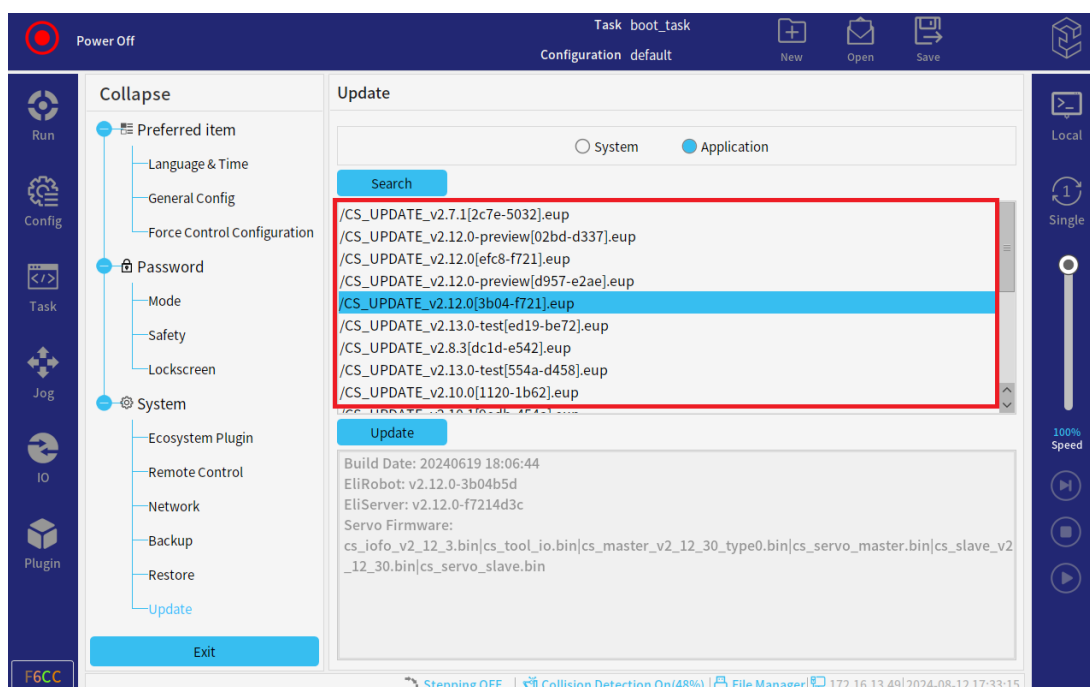
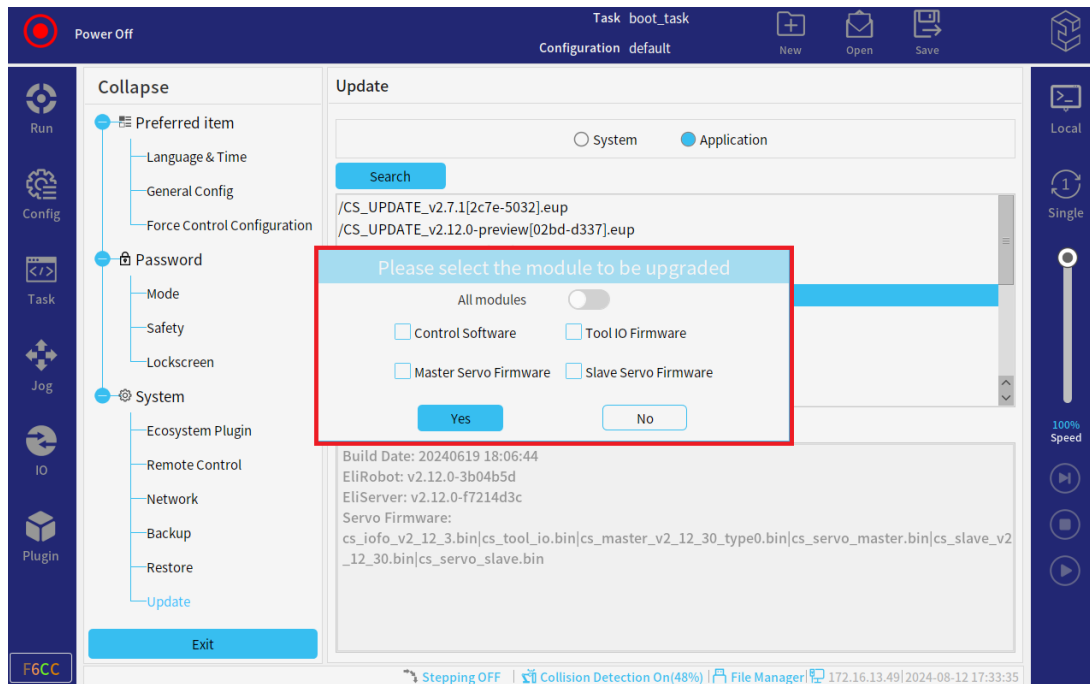
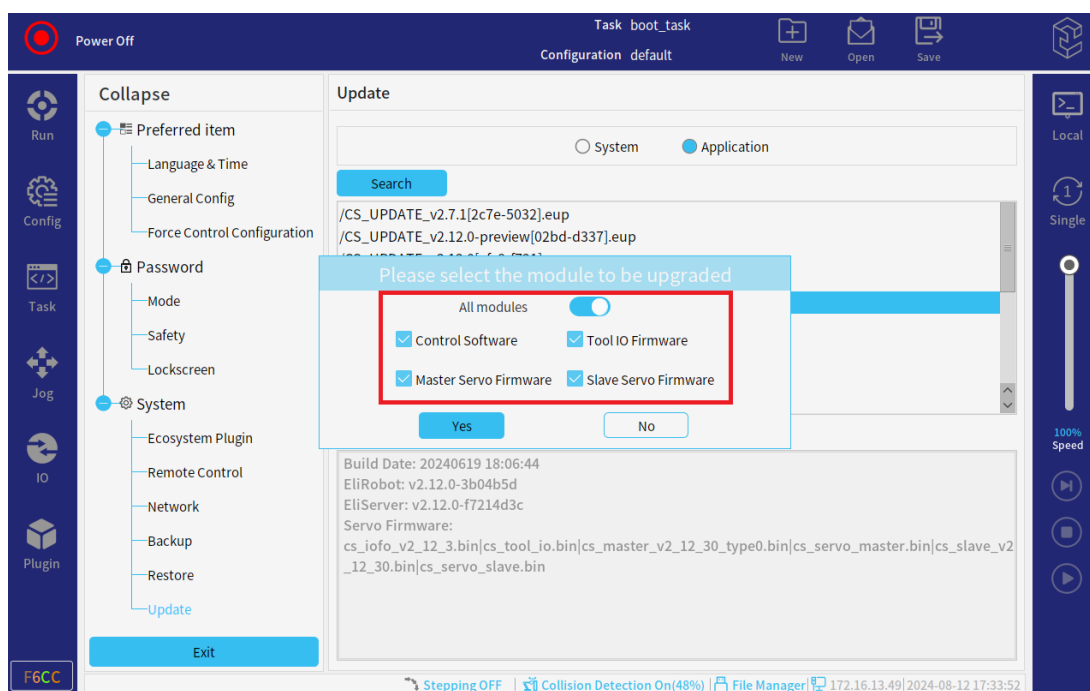
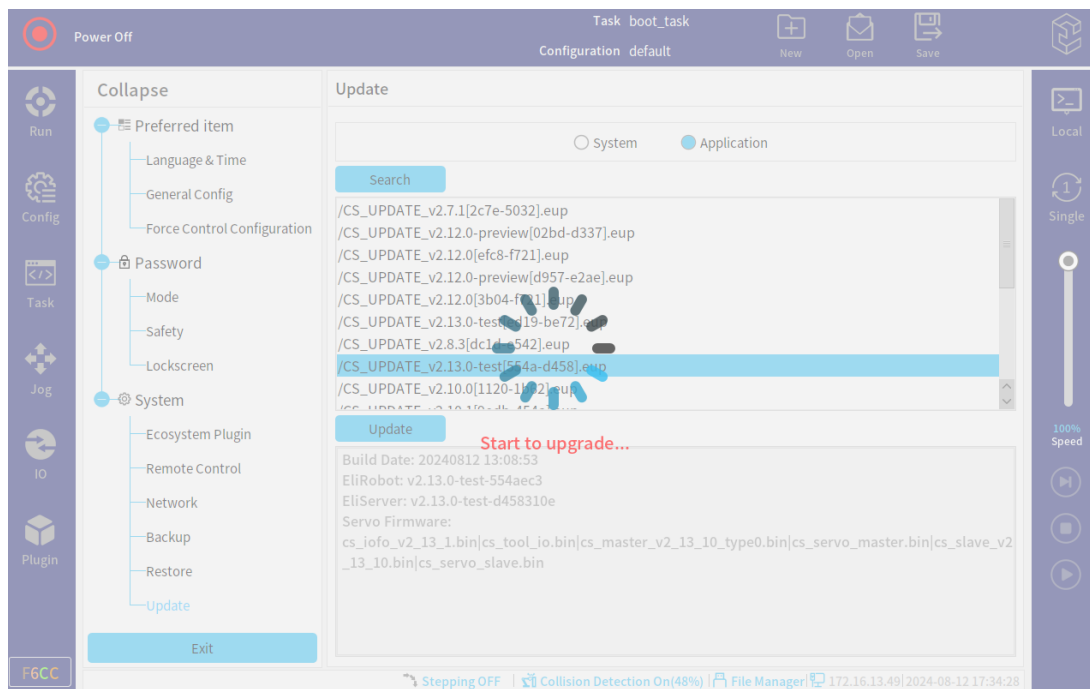

Figure 3-29 : Application update
Figure 3-30 : Select module
Figure 3-31 : Select all modules
Figure 3-32 : Application updating
- Application Update: click "Search" to search for a one-stop upgrade package with the suffix. .eup, as shown in **Figure 3-29**. Click "Update" to select the upgraded modules as required, or click to select all modules, as shown in **Figure 3-30** and **Figure 3-31**, and then click "OK" to update, as shown in **Figure 3-32**.